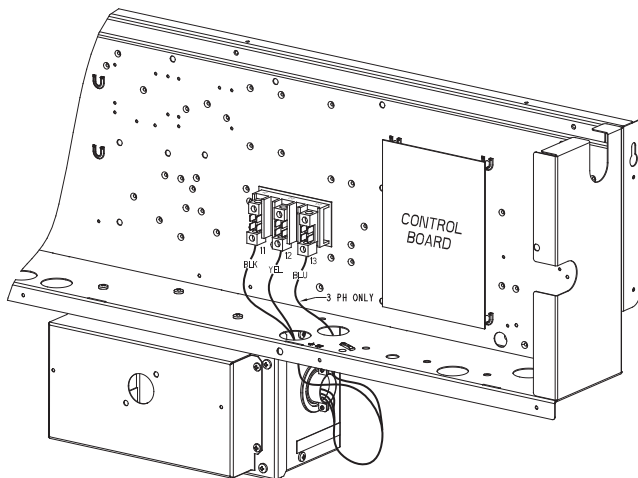

Fig. 34 — NFD Enclosure Location
1. Remove the Control Box access panel. The NFD enclosure is located below the Control Box (see Fig. 34).